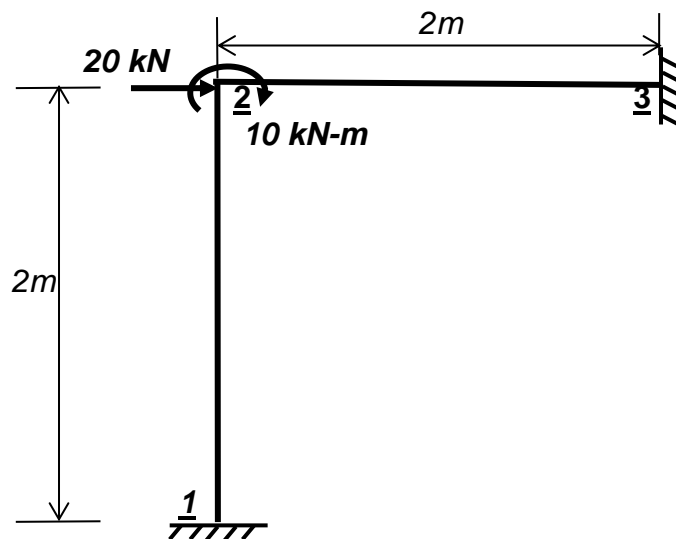

Figure Q.2
- Q.2. Obtain the displacements and internal member forces for the rigidly basic jointed frame loaded as shown in Figure Q.2. For all members, $A = 500 \text{ mm}^2$, $I = 1E6 \text{ mm}^4$ and $E = 100 \text{ kN/mm}^2$.